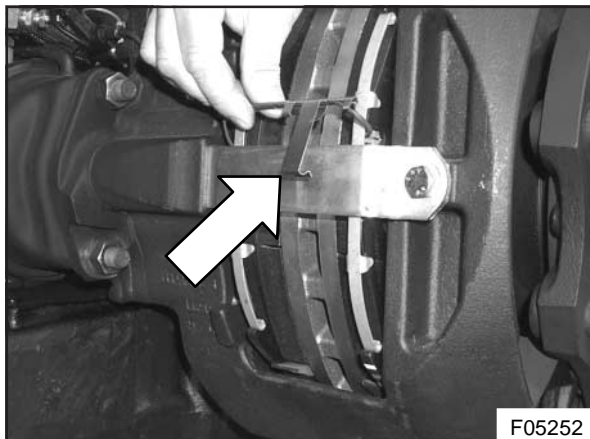

Figure 27 : Brake pad wear indicator cable holder removal
2. Remove the brake pad wear indicator cable holder (see Figure 27).